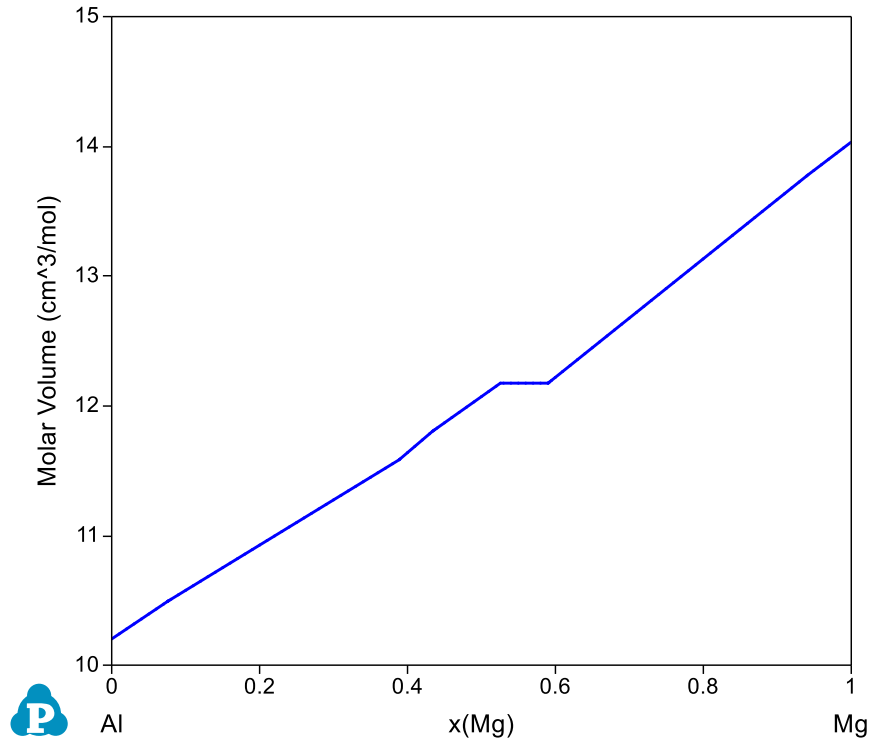
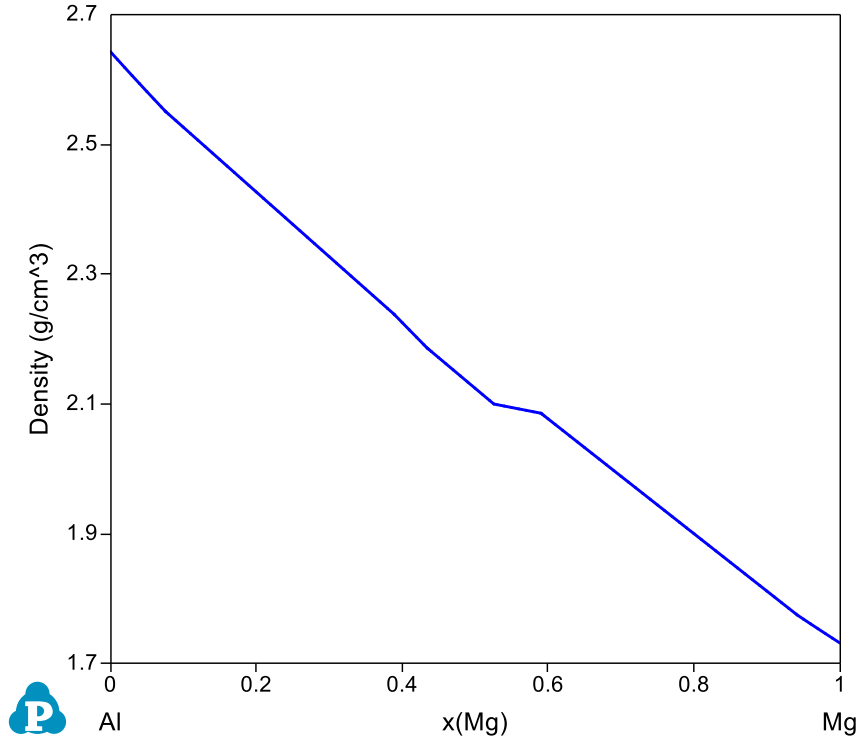

Figure 1.12.3: Calculated molar volume of the system from pure Al to pure Mg in Al-Mg binary at 300°C
Figure 1.12.4: Calculated density from pure Al to pure Mg in Al-Mg binary at 300°C
- Figure 1.12.3 shows the calculated molar volume which increases with the increase of Mg content; Figure 1.12.4 is the calculated density which shows the opposite trend as that of the molar volume;